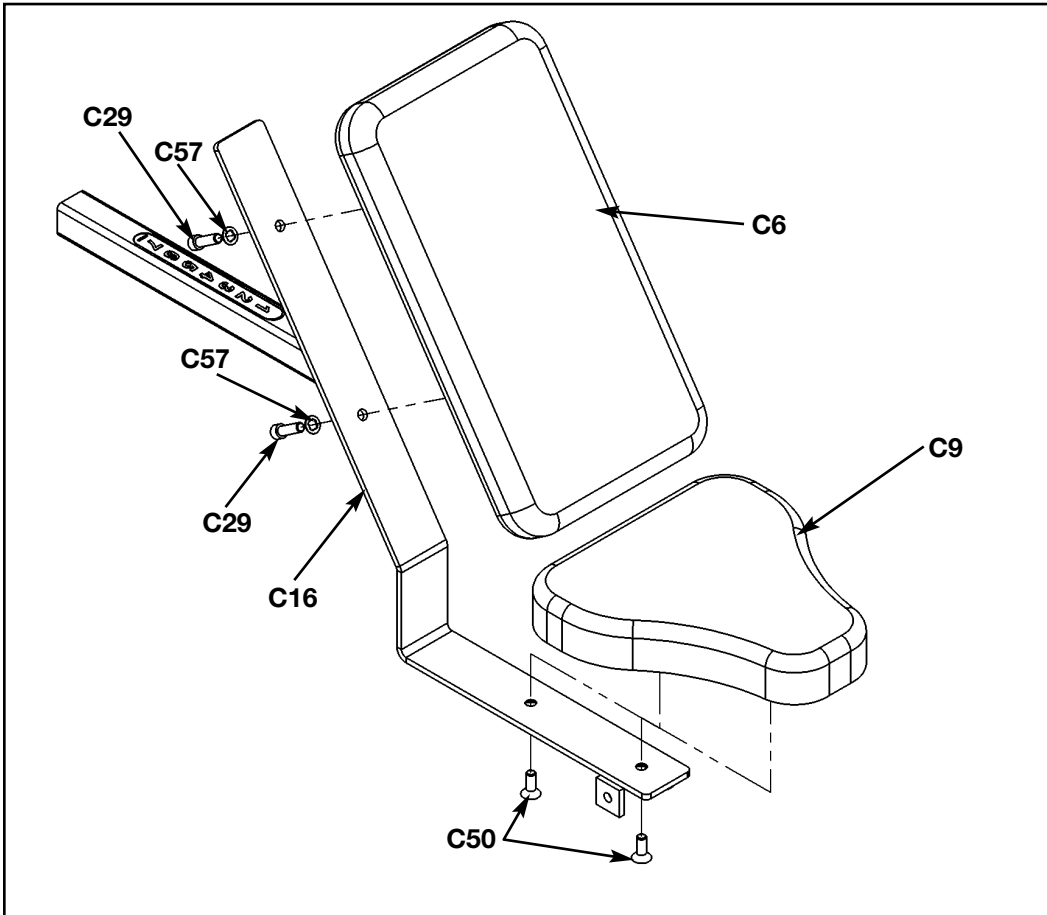

Figure 13
**9. Install cushions** (see steps 9A - 9I and Figures 13 - 16).
- B.** Install seat cushion (#C9) to seat tube (#C16) as shown in Figure 13 and secure using two FHSCS .375-16 x 1.00 (#C50).
- C.** Install back cushion (#C6) to seat tube (#C16) as shown in Figure 13, using two SHCS .375-16 x 1.25 (#C29) and two internal tooth lockwashers (#C57).